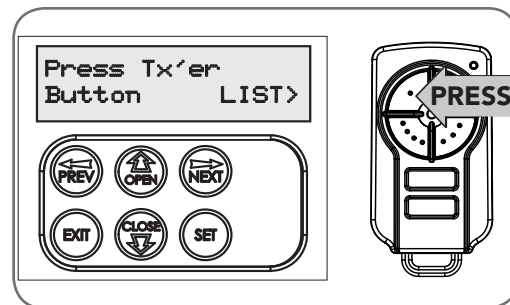

Fig 10.3
- Press the transmitter button you wish to use to operate the Gate Opener (e.g. button 1) (Fig. 10.3).